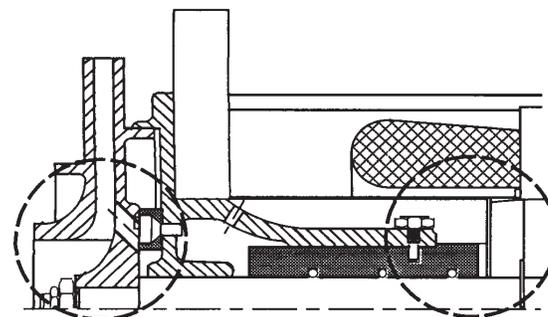

Figure 1-7. Thrust Surfaces, Models GVD, GVE and GVHS.
- C) Single Stage Models GVD, GVE and GVHS. See Figure 1-7.